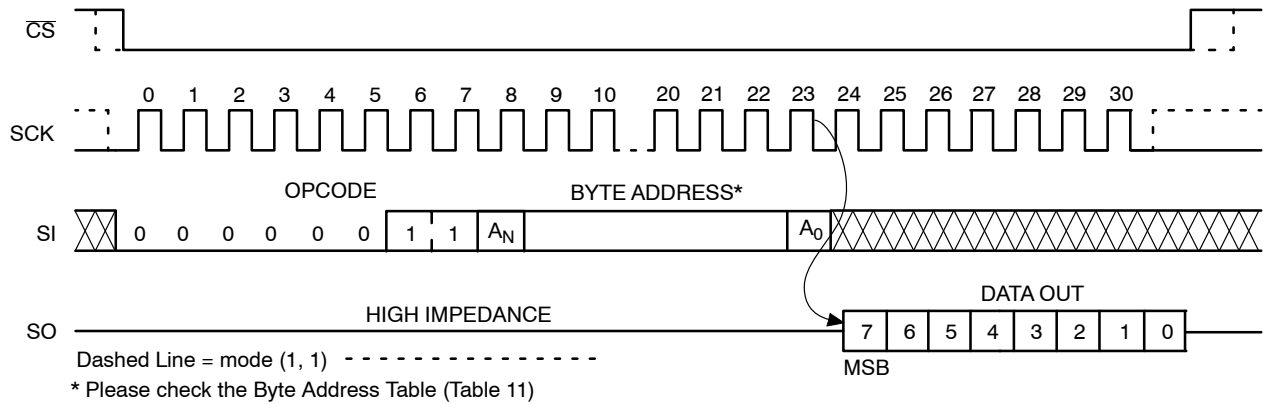

Figure 8. READ Timing
After receiving the last address bit, the NV25xxx will respond by shifting out data on the SO pin (as shown in Figure 8). Sequentially stored data can be read out by simply continuing to run the clock. The internal address pointer is automatically incremented to the next higher address as data is shifted out. After reaching the highest memory address, the address counter “rolls over” to the lowest memory address, and the read cycle can be continued indefinitely. The read operation is terminated by taking \overline{CS} high.
Reading the additional 64-byte Identification Page (IP) is achieved using the same Read command sequence as used for Read from main memory array (Figure 8). **The IPL bit from the Status Register must be set (IPL = 1) before attempting to read from the IP.** The [A4:A0] are the address significant bits that point to the data byte shifted out on the SO pin. If the \overline{CS} continues to be held low, the internal address register defined by [A4:A0] bits is automatically incremented and the next data byte from the IP is shifted out. The byte address must not exceed the 64-byte page boundary.